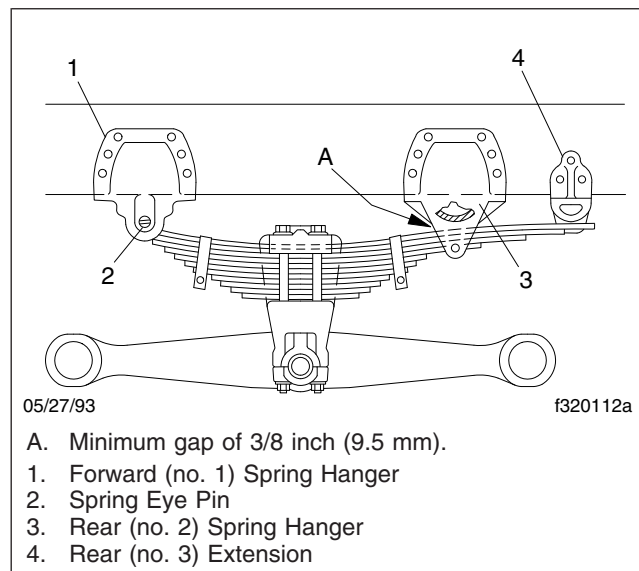

Fig. 6, Unloaded RTE Spring Suspension
1. Inspect the spring hangers for wear of the spring pin holes, cams, and the spring hanger legs. See Fig. 6.